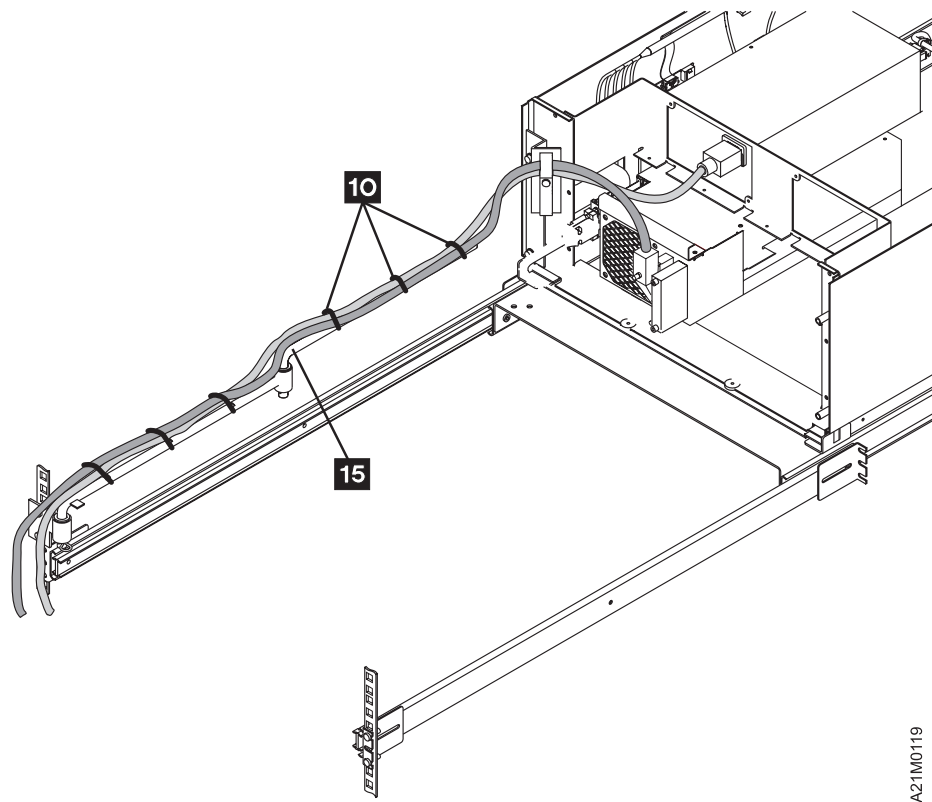

Figure 44. 3570 and Articulated Arm Extended for Model C22 Single Drive
- ___ Step 6. See Figure 44. Push the 3570 completely forward so it will lock into position, then extend the articulated arm to its full length toward the 3570 library.